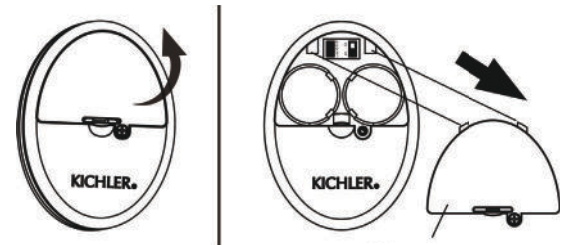

Fig. 25
**Step 1.** Using a screwdriver, remove the battery cover from the handset and save the screw for later use. (Fig. 25)